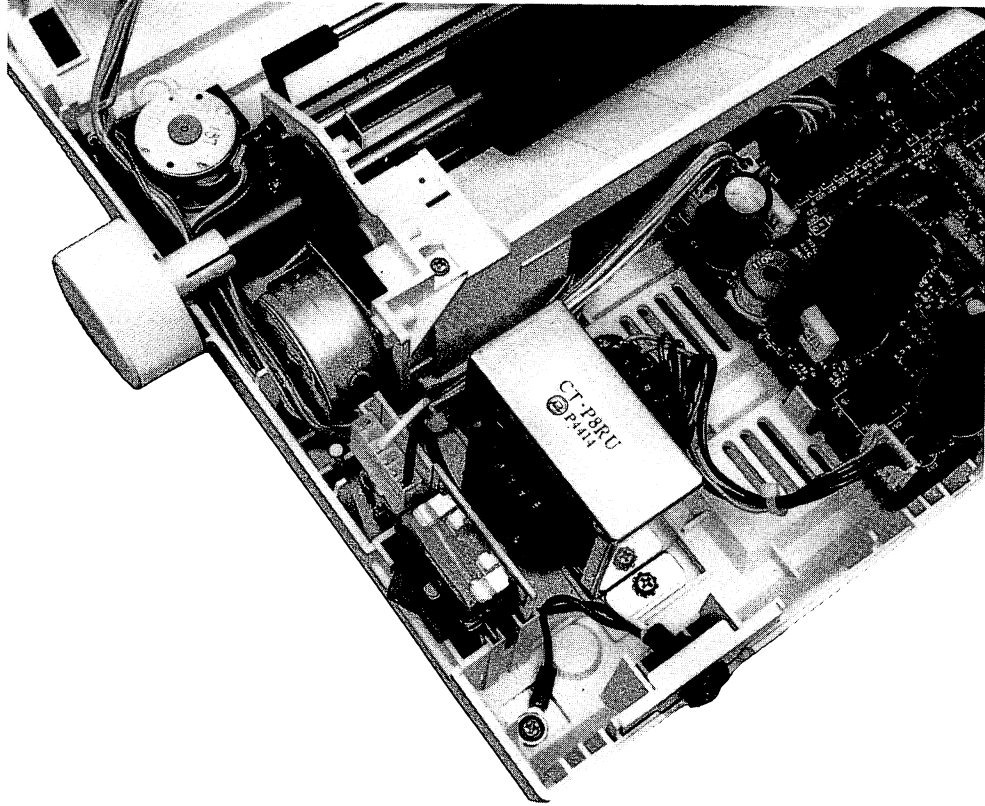

Fig. 1-7. Power Supply Components (120V Version)
1.4.1 Power Supply Circuit (Figs. 1-7 and 1-8)